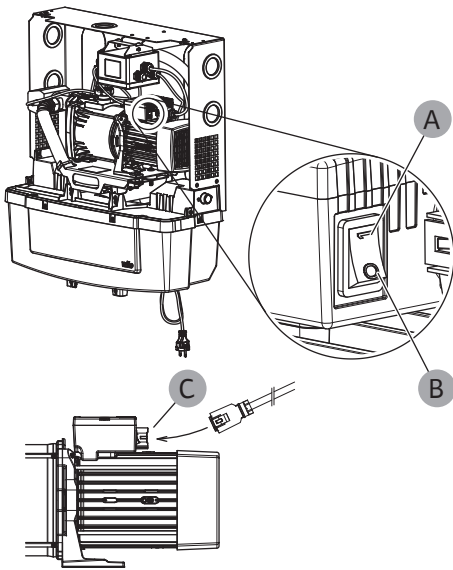

Fig. 22: On/off switch und power supply connection
4. Check that the pump on/off switch is set to ON (Fig. 22 – A).
5. Check that the motor power supply plug (Fig. 22 – C) is properly connected.